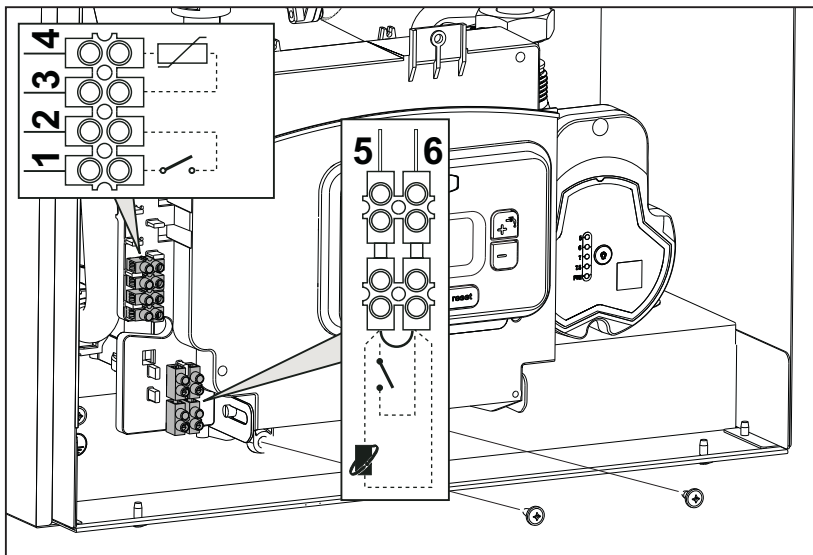
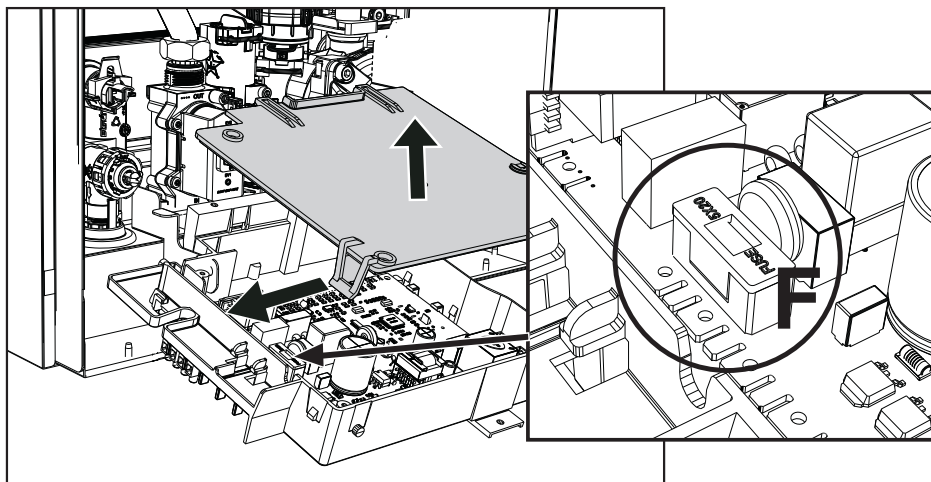

fig. 19
fig. 20
After removing the front panel (*** 'Opening the front panel' on page 265 ***) it is possible to access the terminal blocks (M) and the fuse (F) following the directions given below (fig. 19 and fig. 20). **The terminals indicated in fig. 19 must be with voltage-free contacts (not 230V).** The arrangement of the terminals for the various connections is also given in the wiring diagram in fig. 41.
ON/OFF (A fig. 20) configuration